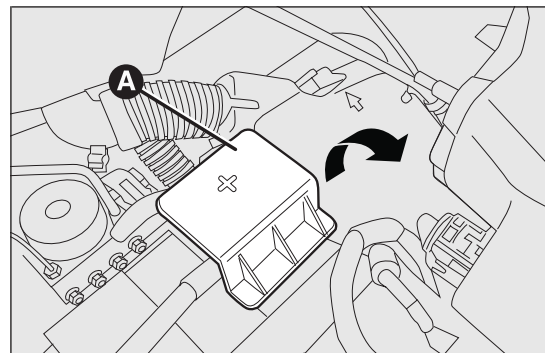

fig. 169
- ☐ remove protective lid A fig. 169 from the positive battery terminal by lifting it upwards;